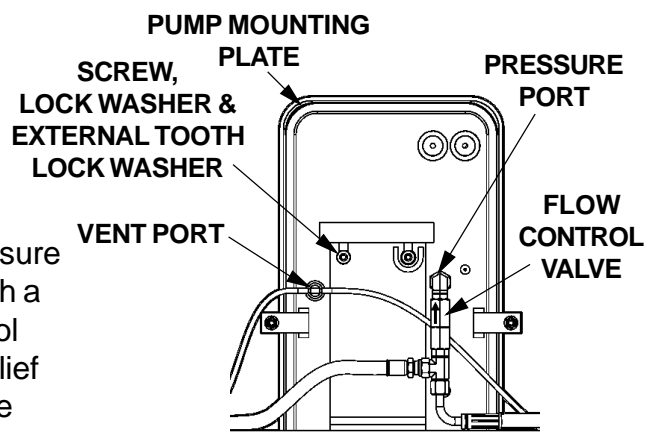

FIG. 40-3
2. Check the Hydraulic Cylinder. With the Platform on the ground, remove the Breather Plug or Vent Line from the Vent Port of the Cylinder (FIG. 40-3). Raise the Platform even with the bed. Allow pump motor to run two seconds more while you watch for hydraulic fluid at the Vent Port. A few drops of hydraulic fluid escaping the Vent Port is normal; however, if it streams from the Vent Port, Piston Seals are worn. Replace Seals.
3. Check and clean Flow Control Valve in high pressure hydraulic line attached to Pump Mounting Plate. When installing Flow Control Valve, make sure it is pointing to the direction of restricted fluid flow (pointing up and back toward pump) (FIG. 40-3).
5. Verify the Pump Motor is grounded to vehicle frame. Make sure external tooth lock washer is installed under Pump mounting screw and flat washer (FIG. 40-3).